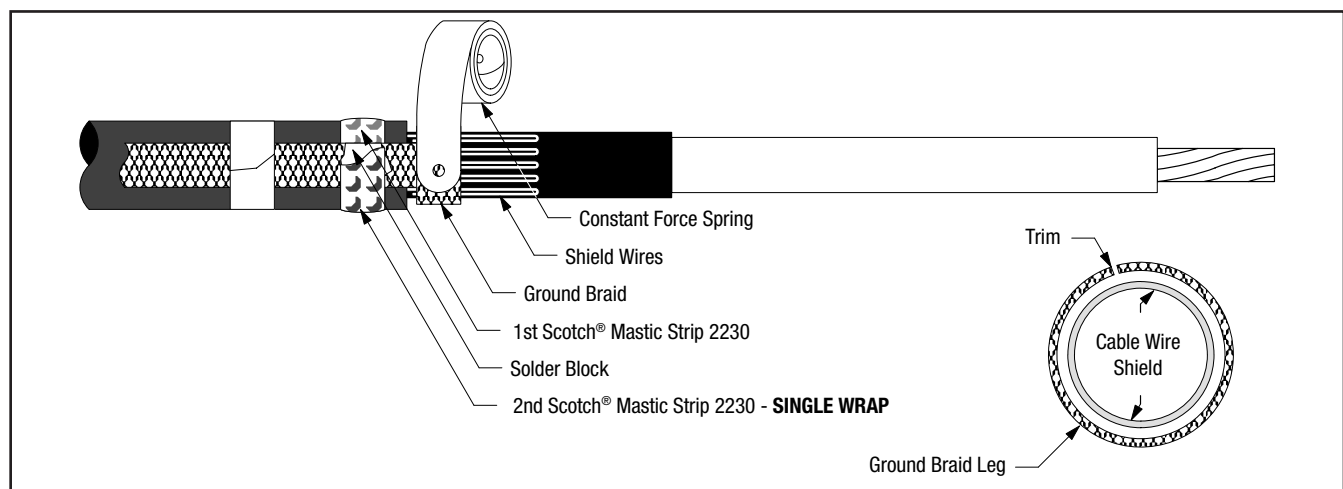

Figure 13
- 8.3 Wrap ground braid around cable shield wires one complete wrap, trim excess at approximately a 45 degree angle, and line up with the pre-bent 45 degree angle already on the ground braid, to prevent overlap. Secure in place with constant force spring. Wrap spring in same direction as ground braid (Figure 13). Cinch (tighten) the spring after wrapping the final winding.
- 8.4 Select second Scotch® Mastic Strip 2230 from kit and remove white release liners. Apply a second **SINGLE WRAP** of mastic over solder block on ground braid and previously applied mastic (Figure 13). Cut off excess.